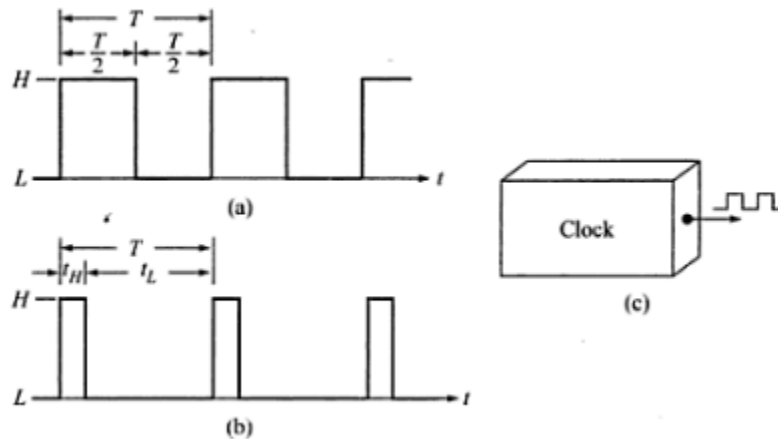

Figure 1.6: (a)Symmetrical signal with period T (b)Asymmetrical signal with period T (c)System clock.
- Period(T) is the time over which the signal repeats itself (Figure: 1.6).
- ratio of low level time to the period (Figure: 1.6).